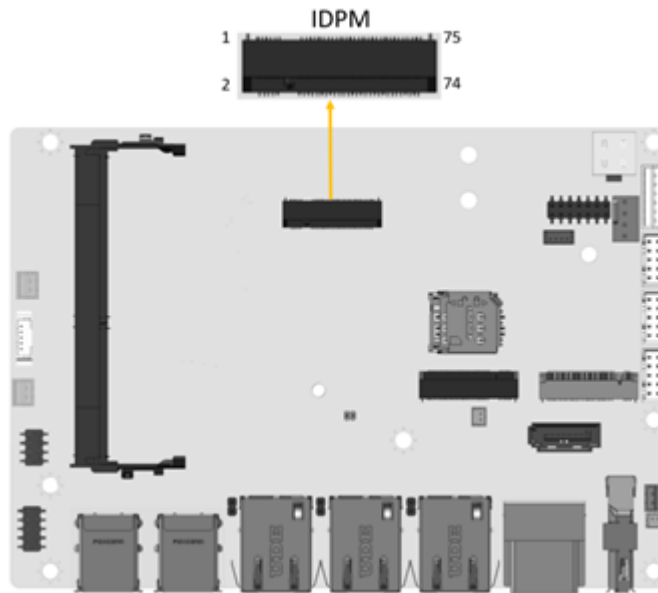

Figure 3-32: iDPM Slot Location
- CN Location:** See **Figure 3-32**